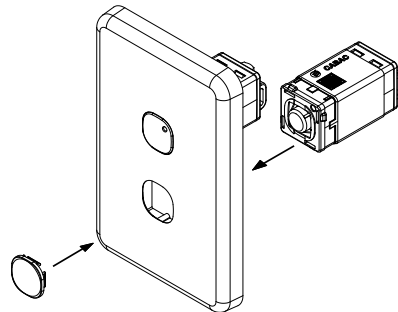

Figure 1: Installation of HNS050MD
- Insert HNS050MD into faceplate and fit the appropriate lens, as shown in Figure 1.